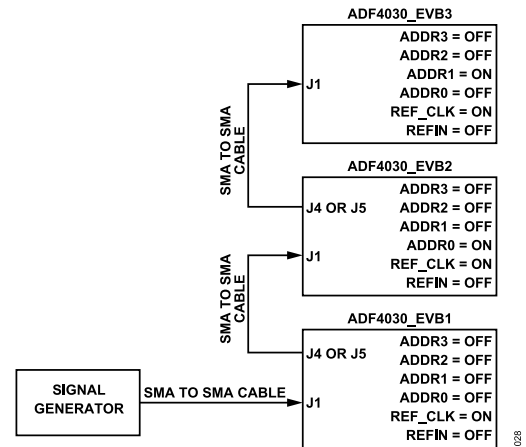
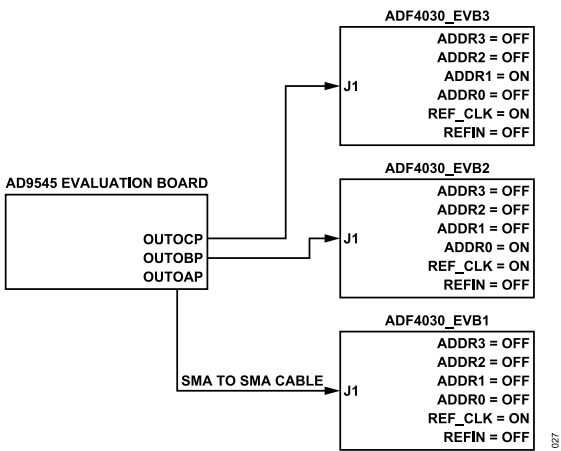

Figure 24. DIP Switch Settings and REFIN Connections for the EV-ADF4030SD1Z Evaluation Boards Using a Signal Generator
Figure 27. DIP Switch Settings and REFIN Connections for the EV-ADF4030SD1Z Evaluation Boards Using the Provided AD9545 Evaluation Board
- c. Connect OUT0AP and OUT0BP outputs to the J1 SMA connector of each EV-ADF4030SD1Z. In case of the three ADF4030 synchronization demo, connect the OUT0CP output also. SMA male to SMA male cables have been provided for the setup (see Figure 27). The length of these connections does not matter. Additionally, using the N line of one or more outputs introduces a 180° phase shift in the reference clock relative to the clocks using the P line of the outputs. This can be used as well.
- The proposed reference clock architecture in Figure 27 is just one implementation example using the provided AD9545 evaluation board as the reference clock source. The system can be supplied from a signal generator at the J1 SMA connector of one board. Then, using the SMA and twinax connectors REF1_OUT, REF2_OUT, and REF3_OUT on the same board, the reference clock can fan out using LVPECL drivers to the J1 (SMA connector) or P1 (twinax connector) of the other boards. The possibilities of providing the reference clock to all boards are endless. An additional example is shown in Figure 24. Note the setting of the DIP switches.